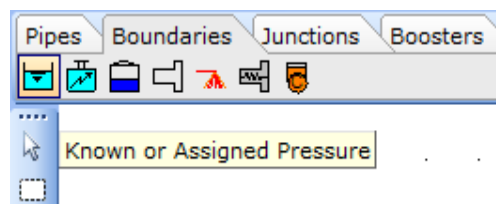

Figure 2: Known or Assigned Pressure Node.
2. Consider the boundary nodes to use for the system. Since we know the inlet and outlet pressure, we can use the *Known or Assigned Pressure* node available from the *Boundaries* tab on the *Component Palette* (Figure 2).